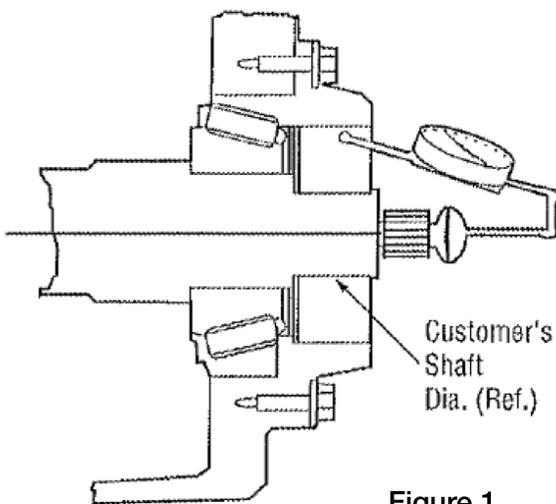

Figure 1
**Concentricity:** The concentricity between the shaft extension and the housing bore that fits the outer race is CRITICAL. The T.I.R. (Total Indicator Reading) takes into consideration the effects of bearing end play as well as machining eccentricities. The T.I.R. on TXT 309B to TXT 1225 should not exceed .003", while the T.I.R. on TDT1325 to 1530 should not exceed .004". The base of a dial indicator can be mounted on the end of the shaft with the needle at the backstop bore in the housing. See Figure 1. Rotate the shaft sweeping the bore 360 degrees which will give the T.I.R.